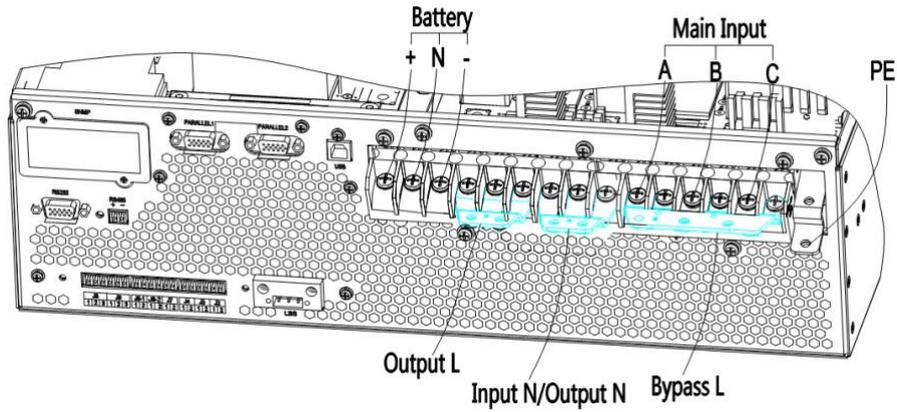

Fig. 2-16 3-phase in and 1 phase out, common input
2. Short-circuit mA, bA, bB and bC with No.6 copper bar; short-circuit oN , bN and mN with No.7 copper bar; short-circuit oA, oB, oC with No.4 copper bar .As shown in figure 2-16.